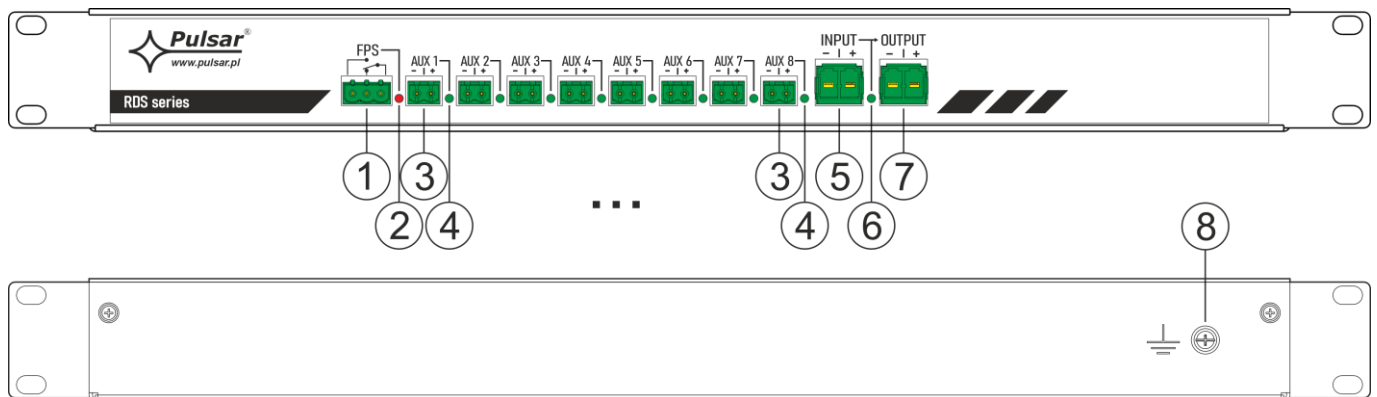

Fig. 2a. View of device
**Table 1. Elements and connector of PSU (see Fig. 2a, 2b).**